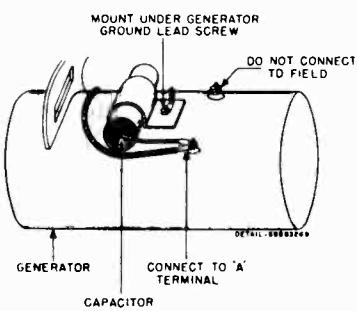

FIGURE 2.
- Install generator capacitor (Part No. 8A4491) as shown in Figure 2. **WARNING:** Do not connect capacitor to field terminal.